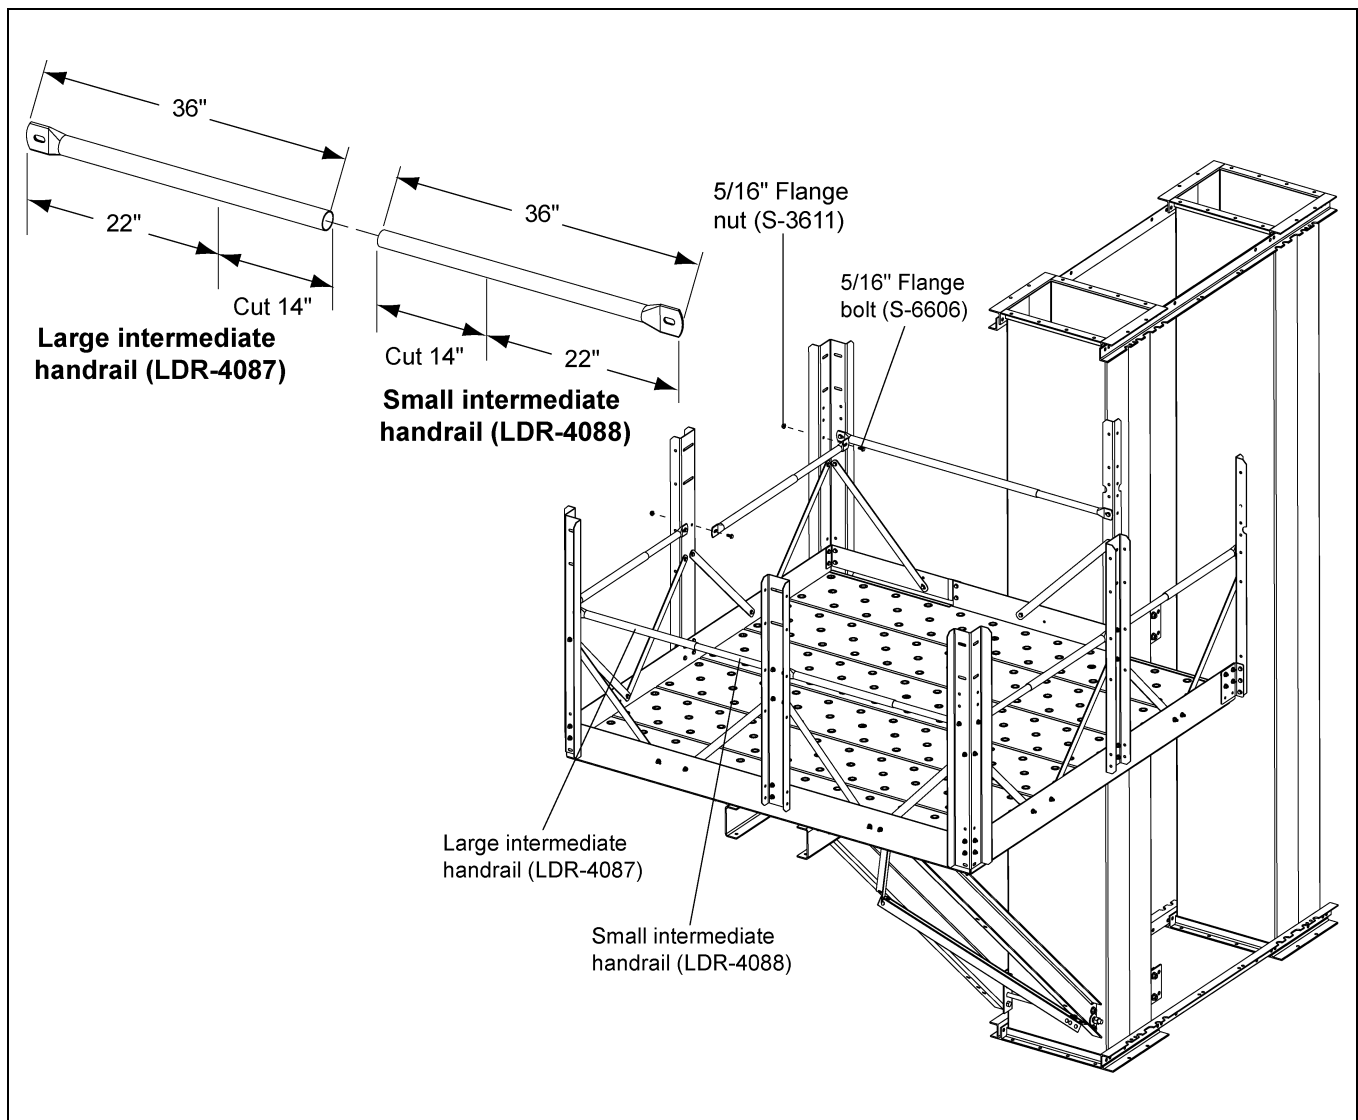

Figure 13J
Trim six (6) large and six (6) small rails by 14" each so that the remaining length of each rail, both small and large is 22". (See Figure 13J.)
1. Install these rails across the platform and the opposite side as shown in Figure 13J.
2. Insert one small rail inside of one large rail and telescope the joined rails from the "W" corner post to the platform post as shown in Figure 13J.